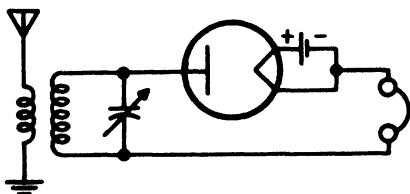

Fig. 14-6. A radio receiving set that uses a Fleming valve as a detector.
**The Fleming Valve as a Detector.** Fleming went one step further. For the alternating-current generator, he substituted a radio tuning circuit. Since alternating current flows out of the tuning circuit, it may be considered a sort of alternating-current generator. For the meter, Fleming substituted a pair of phones, and now he had the same hookup as our old receiving set, but, with a new kind of detector (the tube) to replace the crystal (Fig. 14-6).